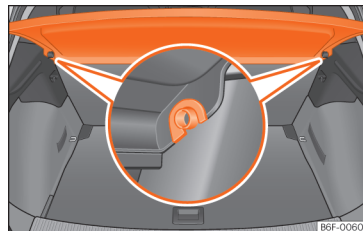

Fig. 163 In the boot: removing and installing the shelf.
- Remove the rear shelf from the side supports »» Fig. 163 by pulling it upwards and then take it out.
- Insert the cover horizontally so that the “recess” fits onto the axis of the supports »» Fig. 163 and press down until it engages.